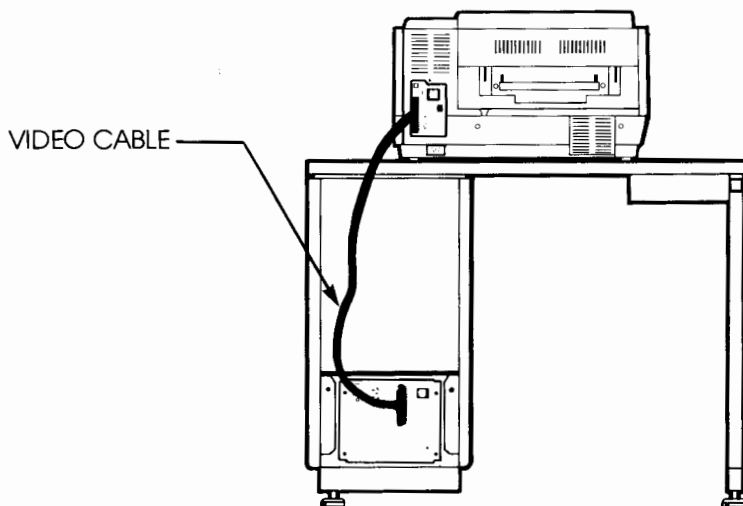

Figure 3-4. Connecting Video Cable
- f. Connect the video cable from the VIDEO IN connector on the back of the printer to the connector on the controller's rear panel (see figure 3-4).